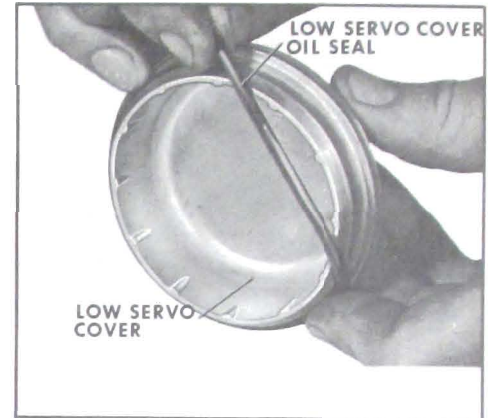

Figure 5-303
2. Install low servo cover oil seal. See Figure 5-303.